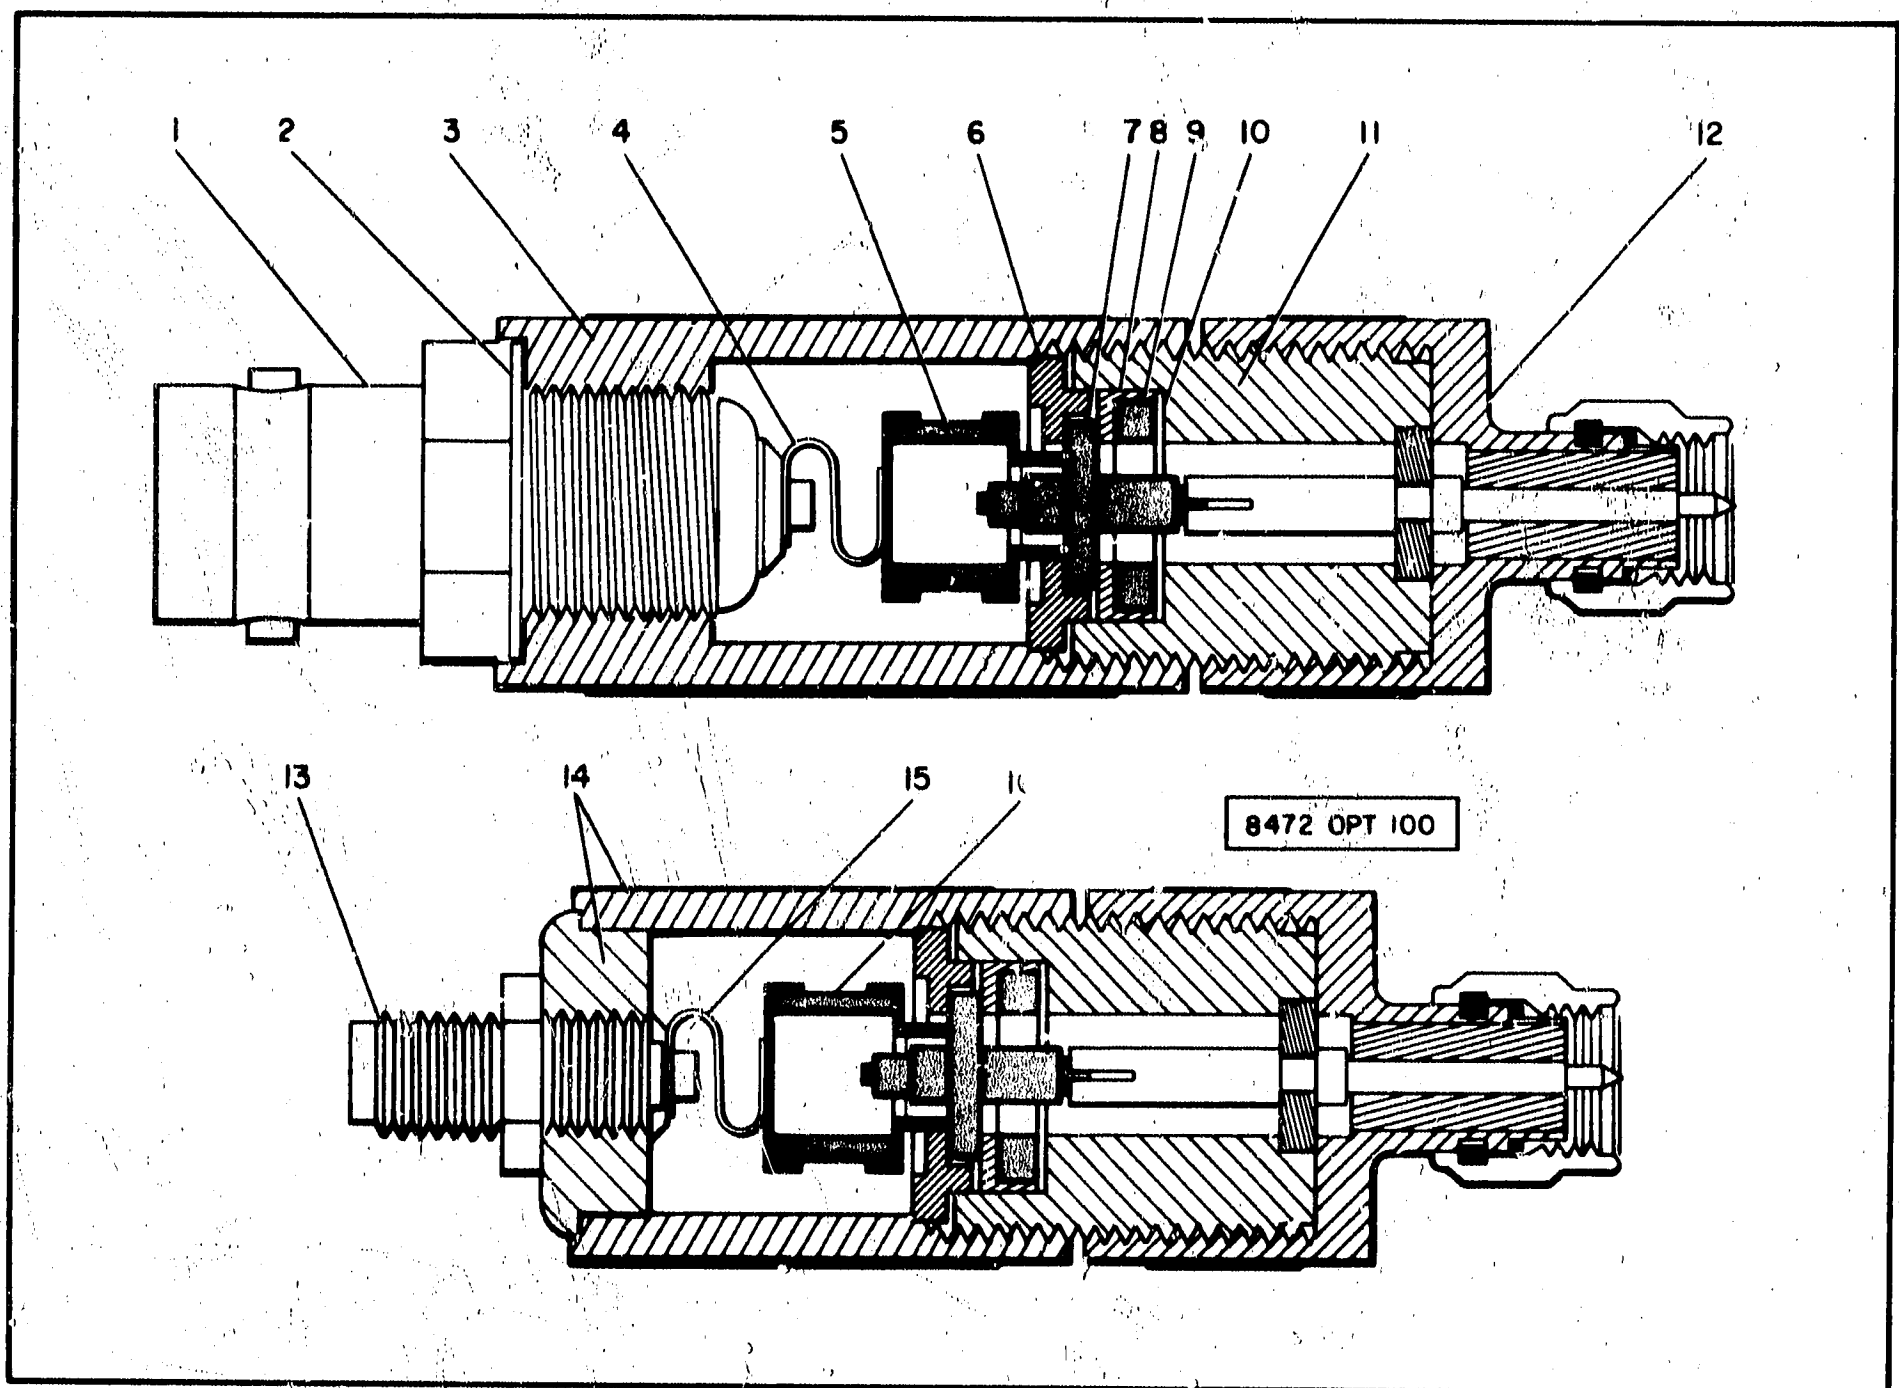

Figure 2. Model 8472A and 8472A Option 100, Cutaway View (Refer to Table 2 for Callout Identification)
The special detector element (see Figure 2) contained in the detector can be damaged in handling, removal, or installation if certain precautions are not taken. The handling precautions which follow should be read before performance of any operation with the detector element when it is out of either the housing or the detector element shipping container.
47. Parts mentioned in the following procedure are identified in Figure 2.